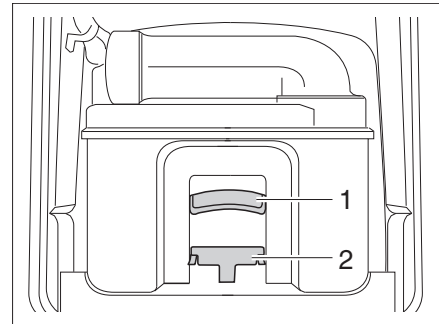

Fig. 384 Thetford cassette
- Pull the retaining clip (Fig. 384,2) forward to unlock the toilet cassette and pull out the cassette at the handle (Fig. 384,1).